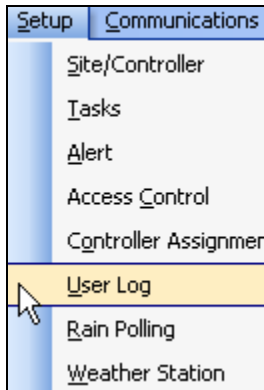

Figure 30.0.1
1. In the toolbar at the top of the screen select **Setup**. Scroll down to **User Log** and click on it (Figure 30.0.1).